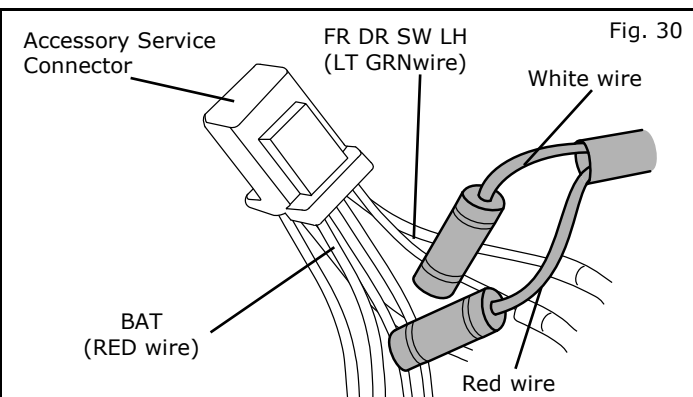

Fig. 30
- 30) Using a Posi-Tap (G), connect the white wire of LED unit wire to the "FR\_DR\_SW\_LH" (LT GRN wire) of the Accessory Service Connector as shown in Fig.30. (In the case of at right side installation, connect the white wire of LED wire to the "FR\_DR\_SW\_RH" (GRN wire) of the Accessory Service connector)
- 31) Using a Posi-Tap (G), connect the red wire LED unit wire to the "BAT" (RED wire) of the Accessory Service Connector as shown in Fig. 30.